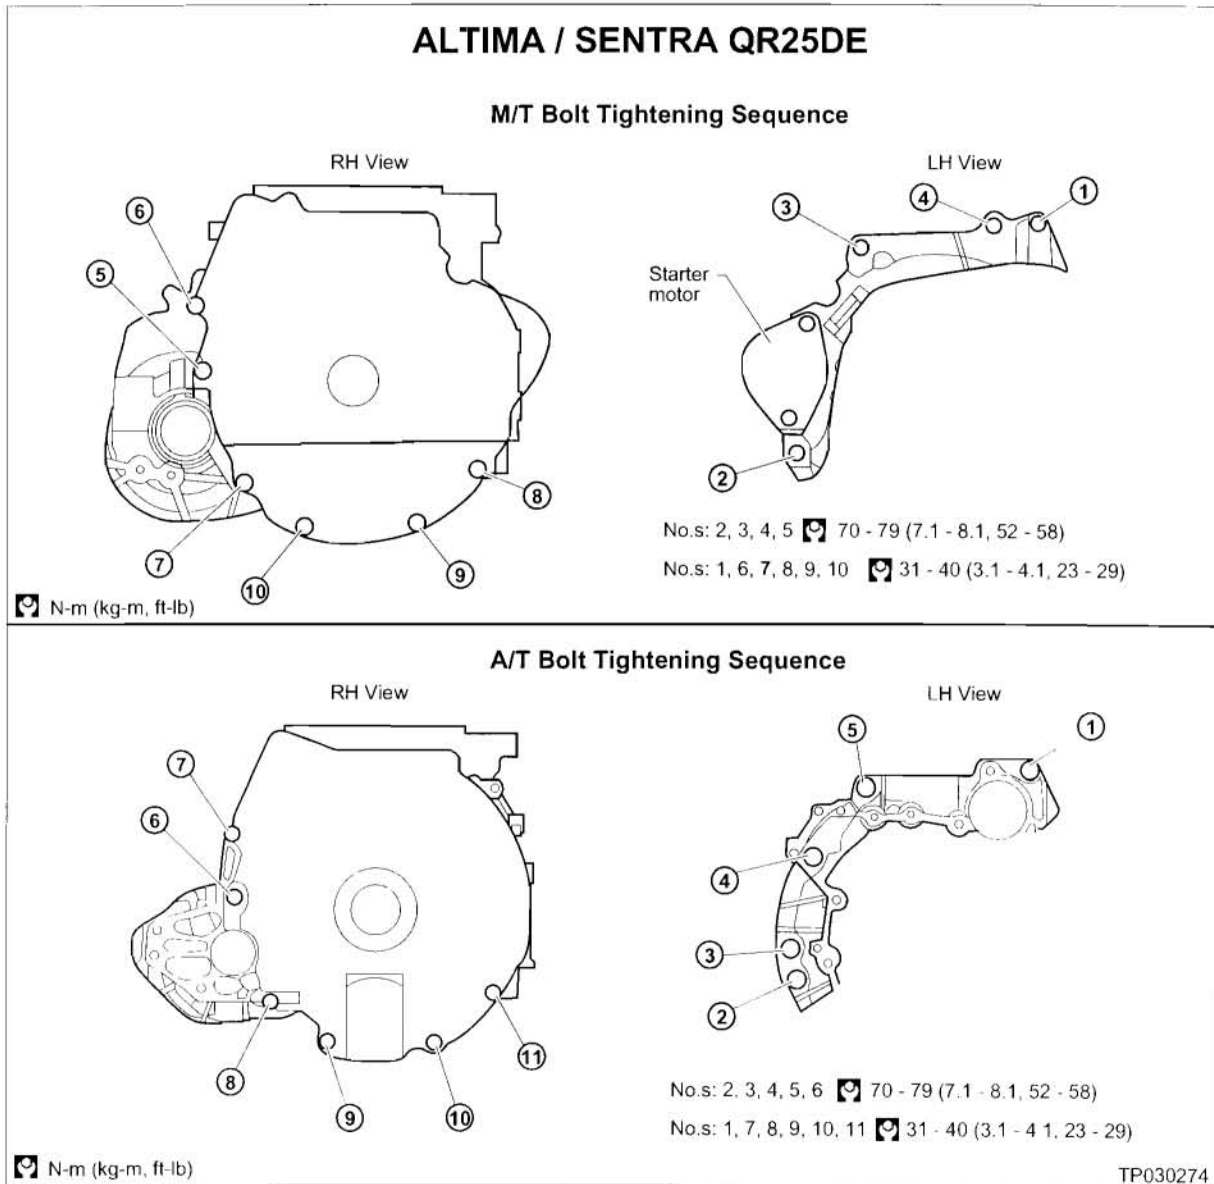

Figure F13
- Tighten the bolts that secure the transmission bell housing to the engine in the sequence shown in Figure F13 below.